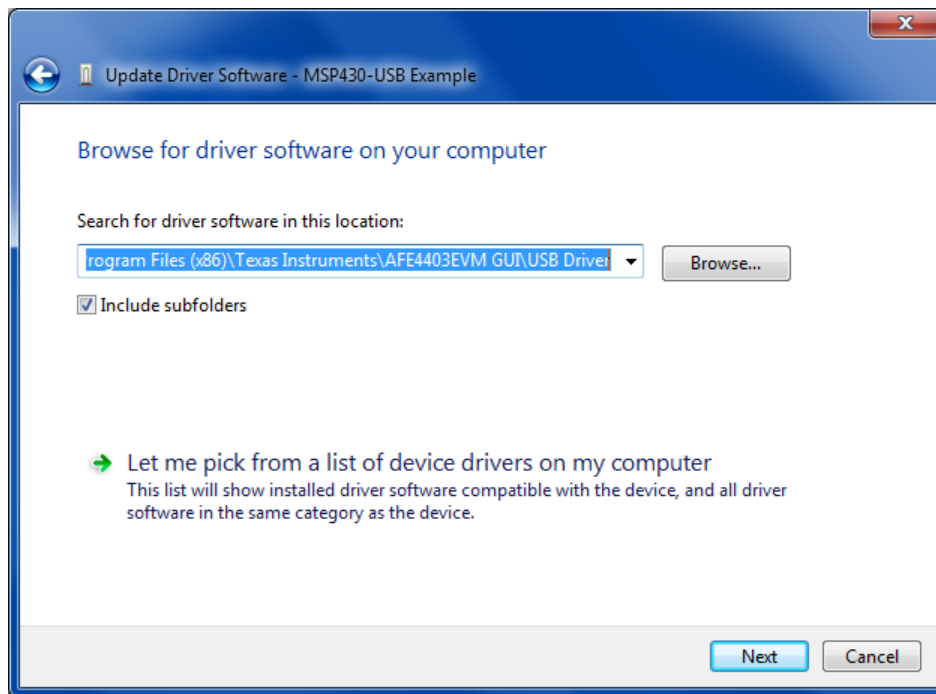

Figure 10. USB Driver Installation - Screen 3
4. As shown in Figure 10, navigate to the directory where the *AFE44xx.inf* file is located by clicking the **Browse** button. The file is located at the following path: